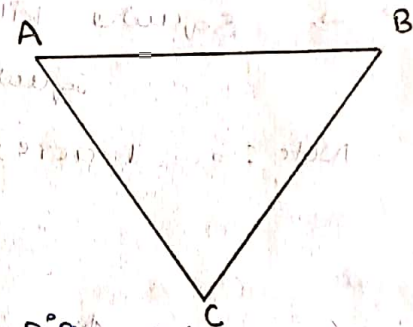

Fig. 2b
- b) By measuring two distances say AC and BC (Ref Fig. 2b)